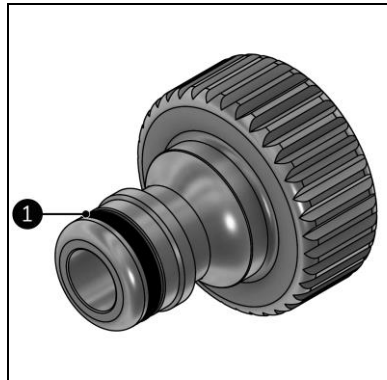

Figure 21
5. Apply Vaseline to the O-ring of the garden hose coupling (Figure 21, pos. 1).